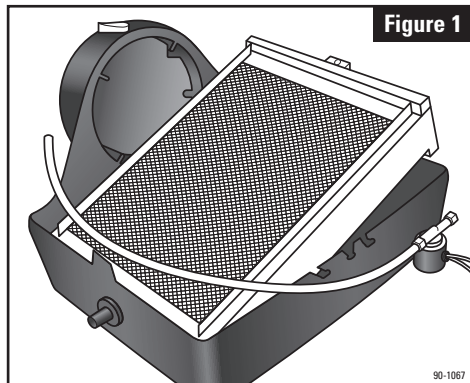
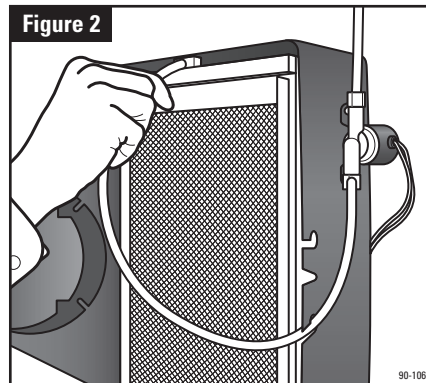

Figure 1
Figure 2
1. Remove front cover by pressing center tabs on top and bottom of the cover (1) and base (2). Pull feed tube (3) out of the water distribution tray (4). Tip the evaporative assembly forward and lift it out of the humidifier. (See Figure 1)
2. The humidifier comes assembled for left side discharge. If converting to right side discharge, the base can be rotated so round collar is facing to the right. Swap the location of the hole plug (10) and drain spud (9) if using a right side discharge. To remove the cap, push and twist from inside the housing while lifting the cap up slightly on the outside. To remove the drain spud, twist and push from the outside of the base.
6. Reinstall the evaporative assembly back into the base, with the bottom of the scale control insert (6) sitting firmly in the inside of the drain spud (9). Snap into place. If evaporative assembly does not snap into place, reverse the assembly. Push the feed tube back into the water distribution tray. (See Figure 2) Put the front cover back on. If the nameplate (11) is upside down, remove it and rotate the nameplate so it is right side up, and snap back into place. Turn damper handle (8) to the open position "WINTER" for the heating season, or closed position "SUMMER" for the cooling season.